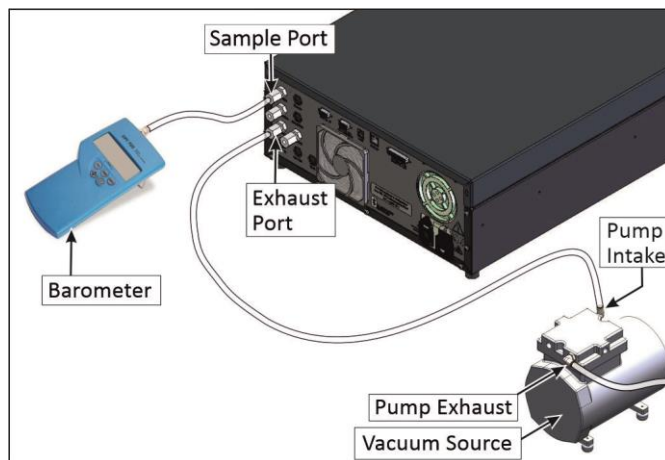

Figure 112 – Full Pressure Calibration Set-up
5. Refer to Figure 112. Connect a barometer to the **Sample Port**.
6. Refer to Figure 112. Connect a vacuum source to **Exhaust Port** of the instrument.